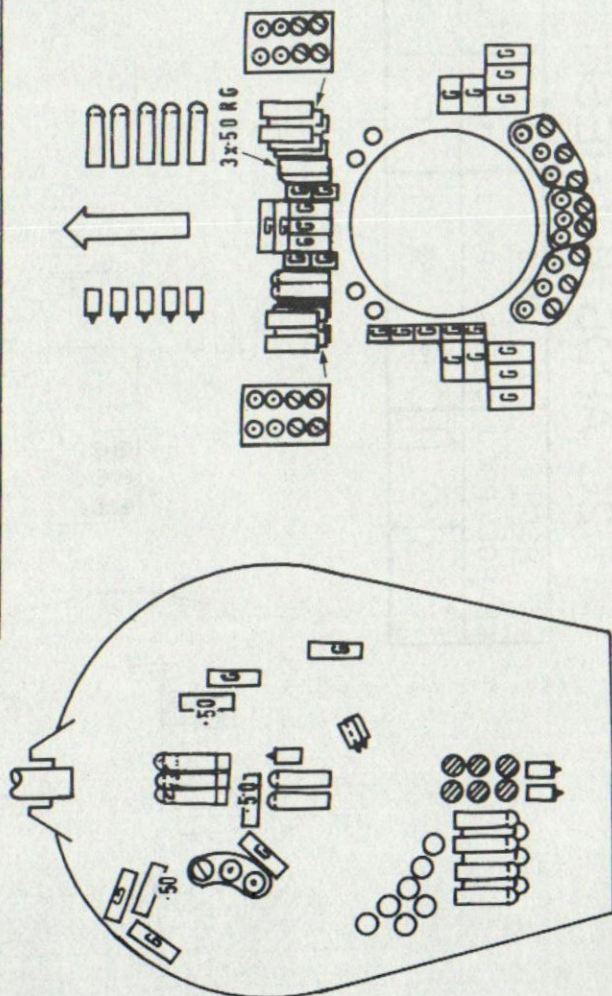

Fig 90 — Stowage of ammunition Mk 2 and Mk 3 vehicles
- a. *Mk 2 and 3 vehicles* (See Fig 90) – 19 APDS, 34 HESH, 30 boxes of 7-62-mm, 6 boxes of .50-in RG.
5. The ammunition stowage diagrams shown in Figs 90, 91, 92 and 93 illustrate the positions to be occupied by the various natures of ammunition. The restrictions imposed by certain projectile racks make it necessary to follow the stowage diagrams if a full complement of main armament ammunition is to be stowed.